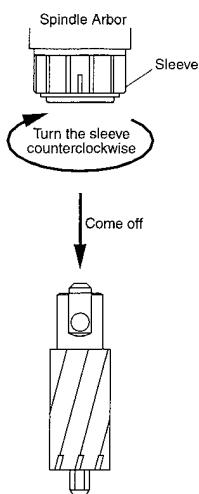

Fig. 15
(4) To remove the cutter, turn the sleeve counterclockwise. The cutter will come off. (Fig. 15)